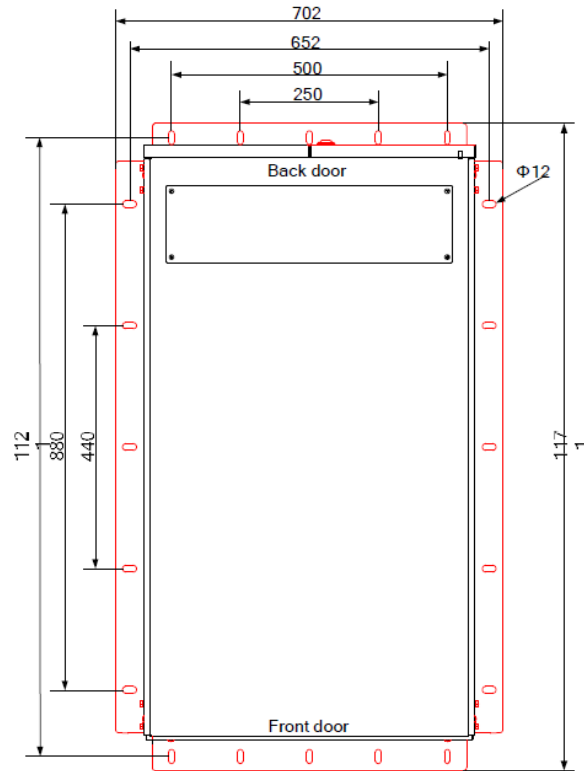

Figure 2-9 Anti-seismic Kits and mounting holes (Top view)
- 2) Mark mounting holes on the left and right sides of the cabinet, as shown in Figure 2-9.